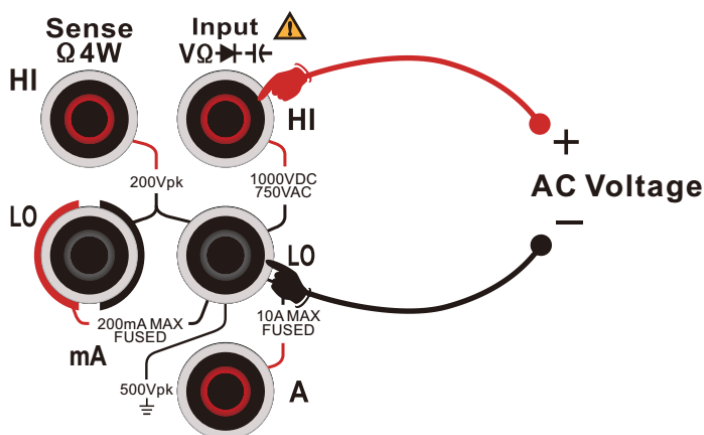

Figure 0-31 Measuring Connection of Signal Frequency
2. As shown in Figure 0-31, connect the test leads to the signal to be measured, the red test lead to the "Input-HI" terminal and the black test lead to the "Input-LO" terminal.